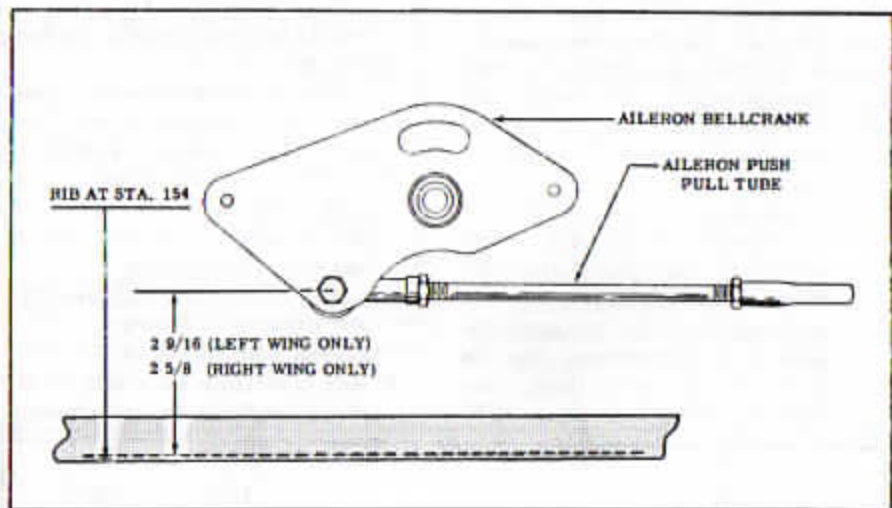

Figure 16. Aileron Bellcrank Adjustment
- crank to a position as shown in figure 16. Cable tension should be approximately 30 pounds with the control wheels in the full forward position. This position should be maintained in checking the travel.